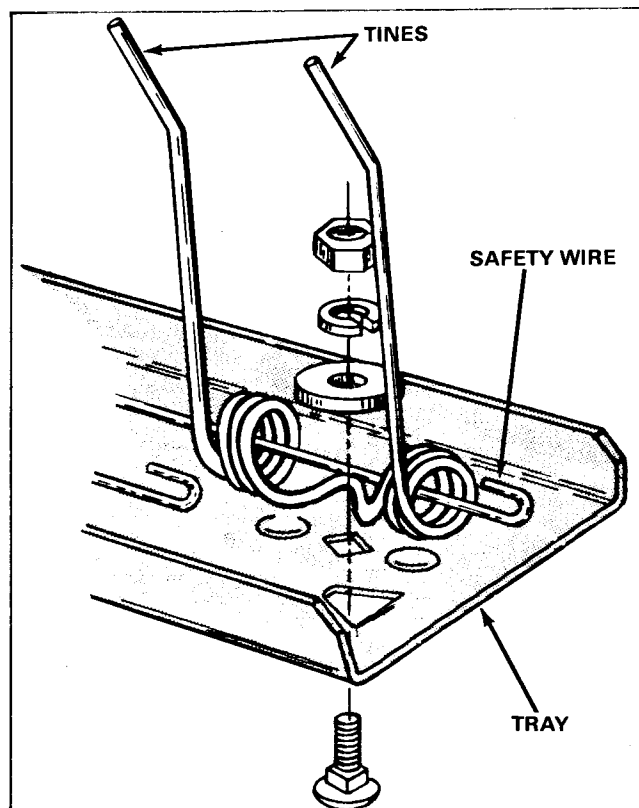

Figure 134
1. Install the 6 tines to the tine tray by laying the tray on a flat surface with the flanges facing up. See Figure 134.